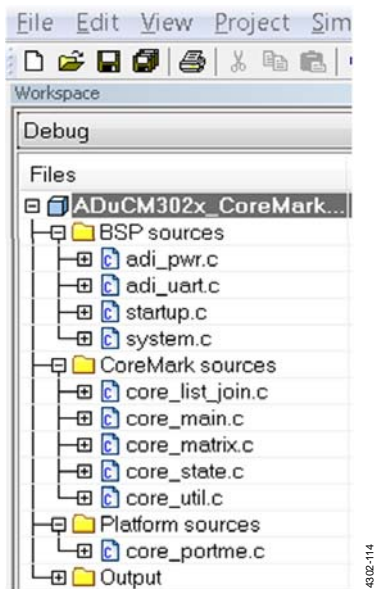

Figure 14. Project Files
4. Browse through the obtained project and open the `.ewp` extension file. The files available in the workspace are shown in Figure 14.